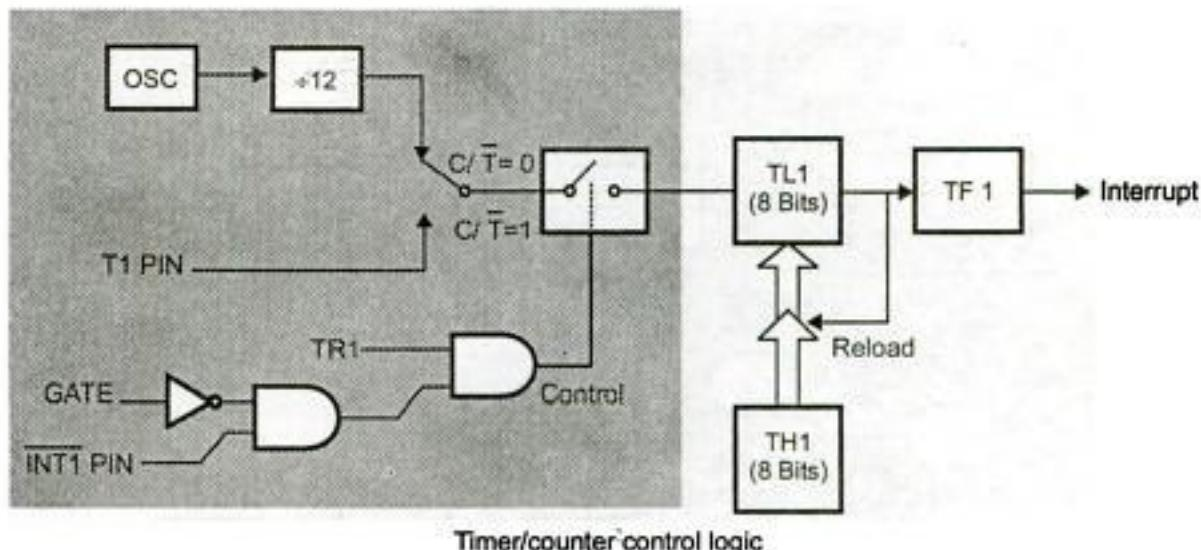

Fig. 9.5 Timer/counter 1 mode 2 : 8-bit auto reload
- Hardware :** The timers can be started and stopped by an external hardware as long as 'GATE' bit in TMOD register is 1. In Figs. 9.5 and 9.6, the start and stop operations of the timers are done externally through pins $\overline{\text{INT}0}$ (pin 3.2) and $\overline{\text{INT}1}$ (pin 3.3) for timers 0 and 1 respectively. The timer can be started or stopped at any time externally via a simple switch.
Mode 2 configures the Timer register as an 8-bit Counter (TL1) with automatic reload, as shown in Fig. 9.5. Overflow from TL1 not only sets TF1, but also reloads TL1 with the contents of TH1, which is preset by software. The reload leaves TH1 unchanged. Mode 2 operation is the same for Timer/Counter 0.